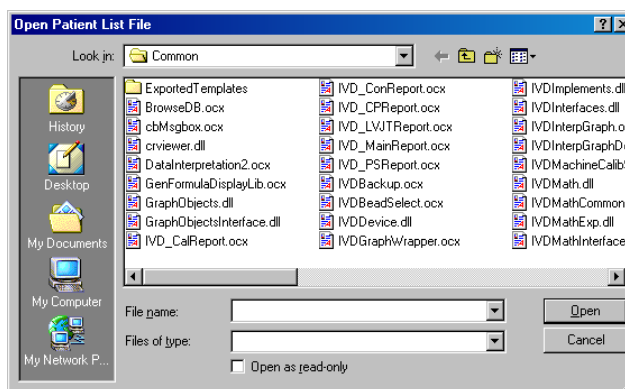

Figure 5-52 Open Patient List File Dialog Box
3. Click **Load Patient List**. The **Open Patient List File** dialog box opens. See Figure 5-52.